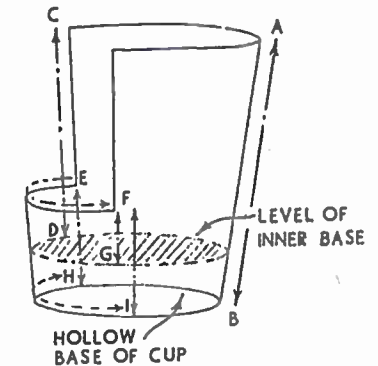

Fig. 2
The instructions given here are for the straight-sided chair. To cover the back of the chair, two pieces of felt are used. The outer piece should extend right round the back of the chair, and the length should correspond to that of the outside of the cup (A-B) in Fig. 2. The inner piece will be slightly smaller, the length being equal to the depth of the cup from the inside base to the top (C-D) in Fig. 2.
This is to allow the inner and outer piece of felt to fit neatly at the lower edges (E) and (F) (Fig. 2).
An oblong piece of felt is then cut to cover the low front of the cup (E-F) (Fig. 2), allowing enough material to turn in over the edge (F-G).
Join the strip firmly to the back cover (E-H) and (F-I) in Fig. 2. Fold the turning over the front edge of the chair and stitch it neatly into place. Make a small round cushion to fit in the seat of the chair, stuff it firmly and sew it in.